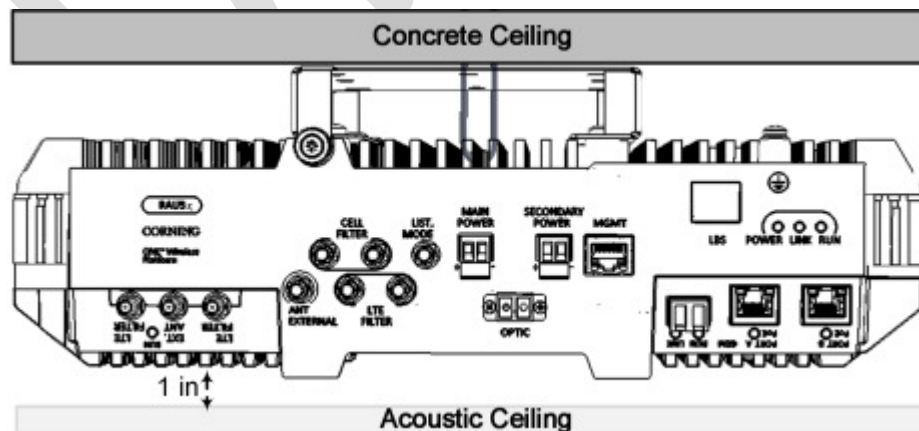

Figure 4-1. Example of (Concrete) Ceiling Installation of Mounting Bracket (RAU5x without External Antenna)
- When mounting the bracket on a wall the captive screw (indicated in Figure 4-1) should always be positioned in the same direction as the RAU5x connectors.